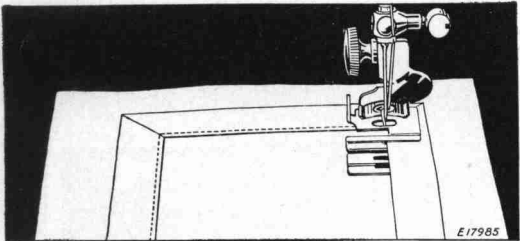

FIG. 55. APPLYING BIAS FOLDED TAPE
- (2) To make square corners, sew to the turning point, remove the tape from the attachment, form the corner by hand, replace the tape and continue stitching. See **Fig. 55**.
- (3) To space two or more parallel rows, mark the material with a guide line, using a crease, chalk or basting thread.